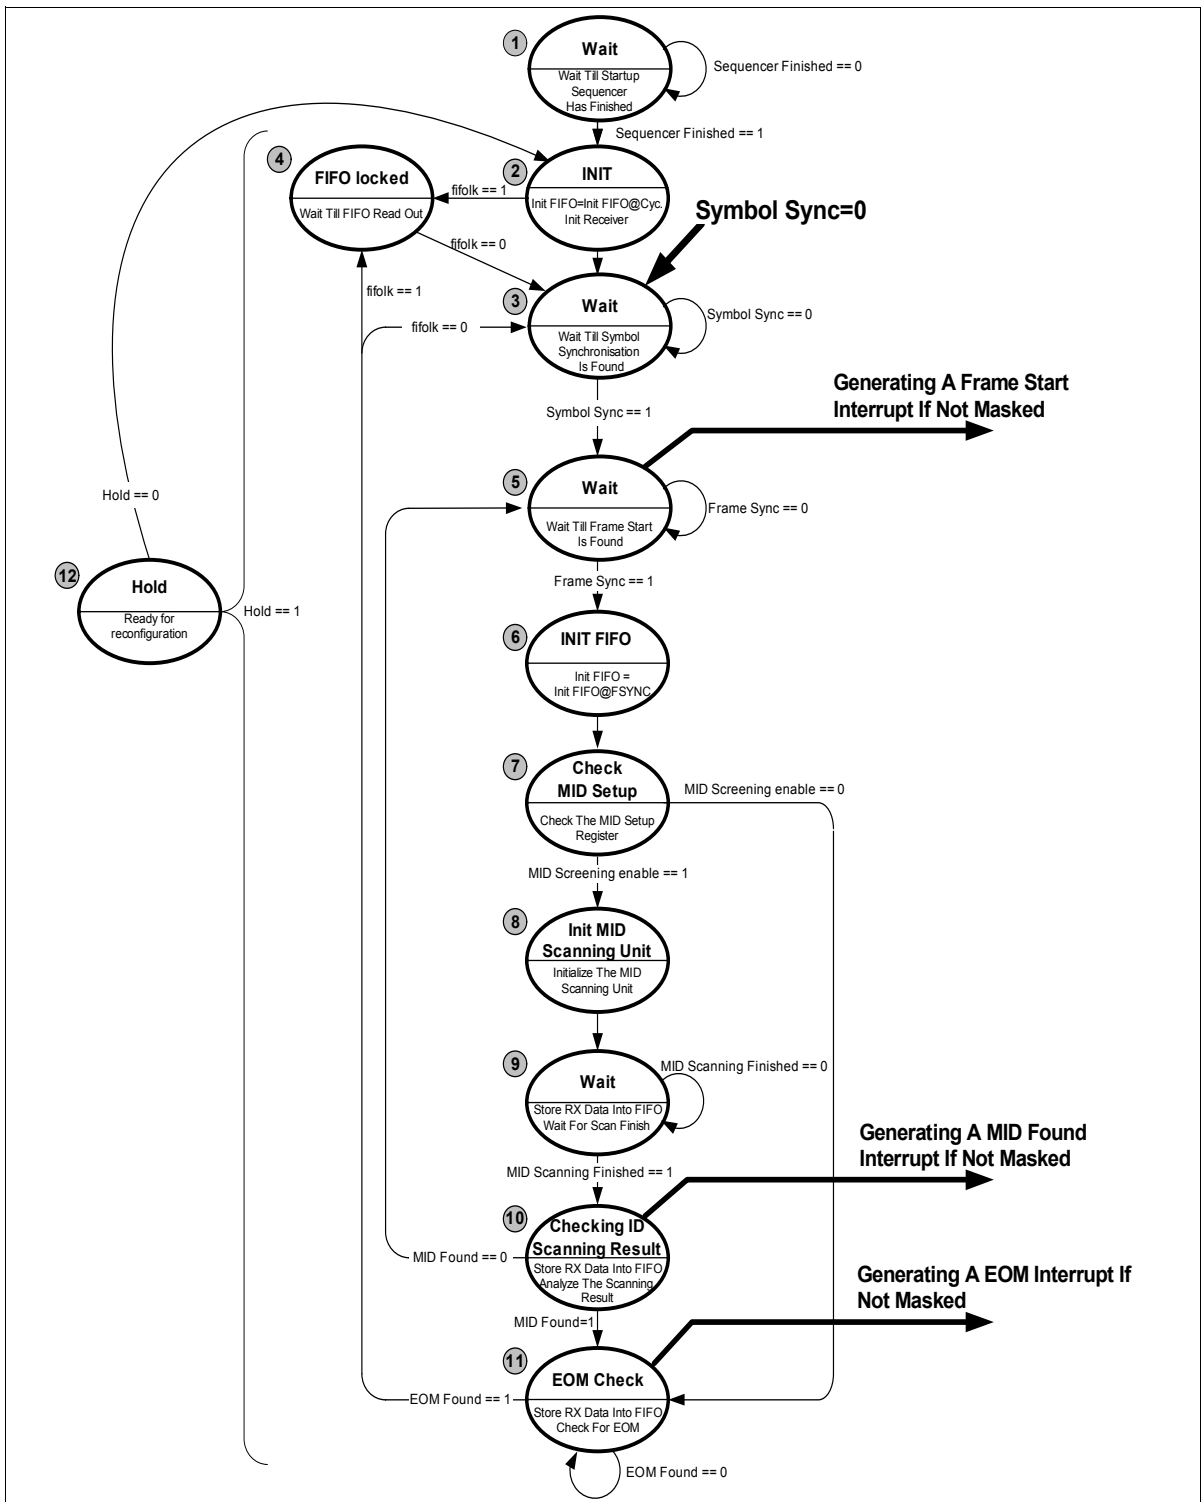

Figure 18 Run Mode Slave
**Figure 18** illustrates the **internal behavior** of the FSM (Finite State Machine) in Run Mode Slave.